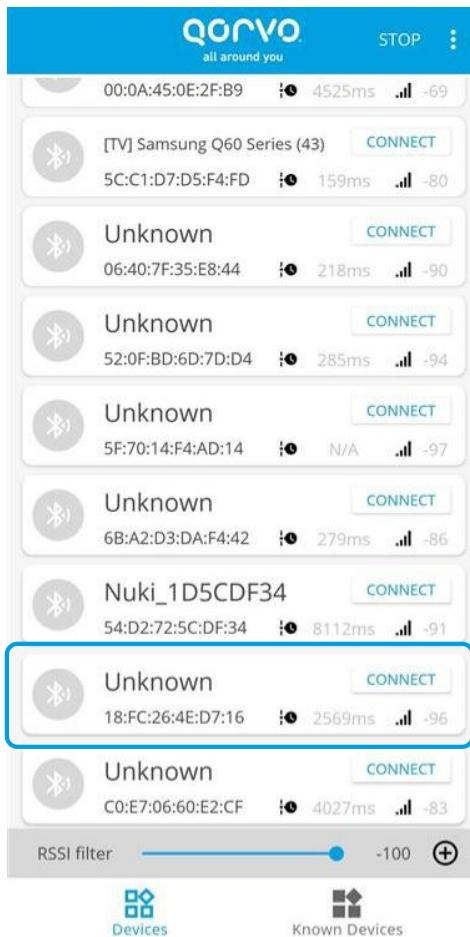

Figure 2.11: Find beacon device in Qorvo Connect
6. Open Qorvo Connect on your smartphone and look for the Bluetooth LE address of your device. See figure 2.11.